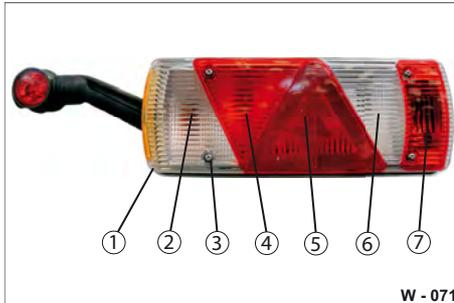

Fig. 69 Rear light components
- ▶ Unscrew the 4 fixing screws (Fig. 69/3).
- ▶ Remove the outer light lens (Fig. 69/1). Remove them carefully.
- ▶ Screw on the fixing screws (Fig. 69/3). Tighten the screw connections with max. 1.5 Nm tightening torque. Cracked light lenses must be replaced.